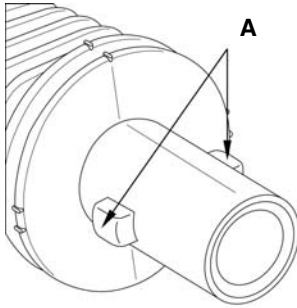
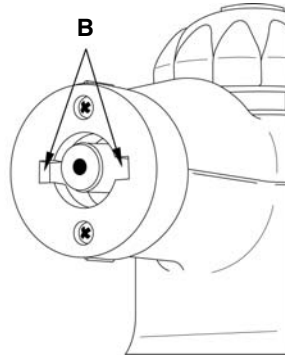

FIGURE 1
FIGURE 2
1. Insert cylinder on back of Jet Nozzle or Wide Nozzle (FIGURE 1) into opening of Steam Nozzle (FIGURE 2). Align it so that two tabs on sides of cylinder (FIGURE 1-A) fit into two tab holes on sides of opening (FIGURE 2-B). Be sure to push accessory in as far as possible.